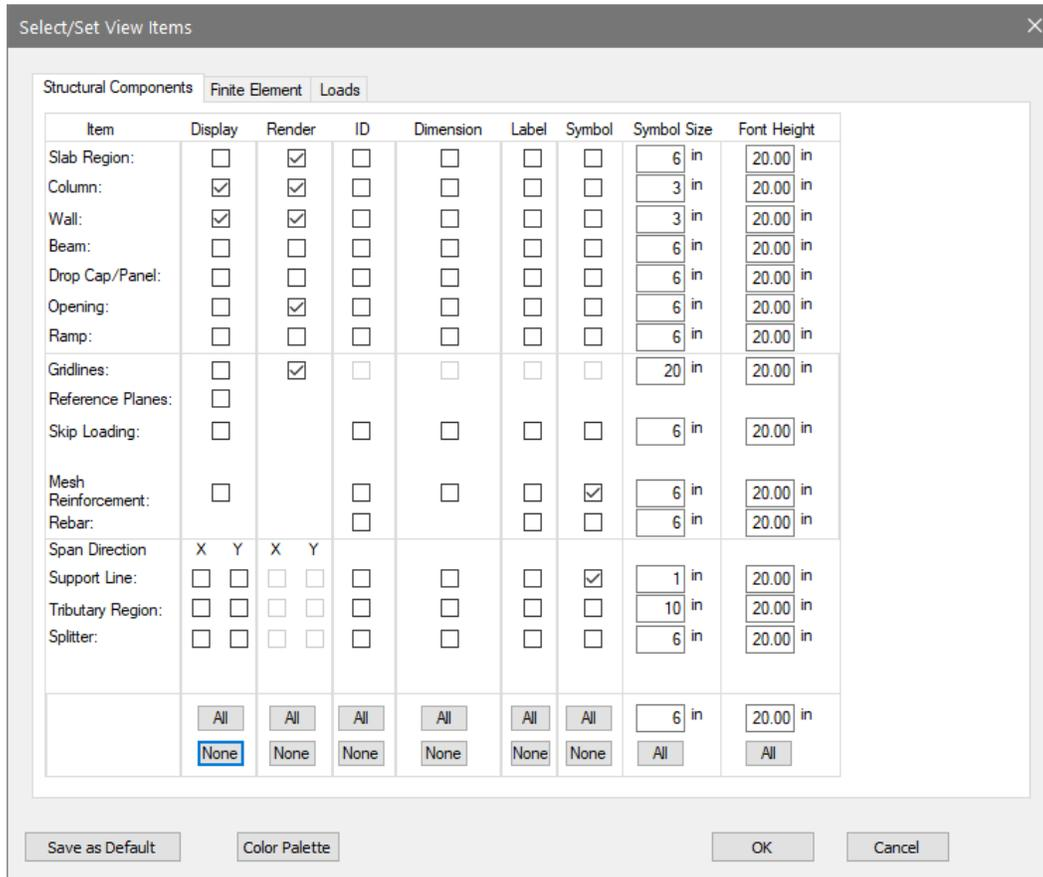

Figure 3-15
- On the *Structural Components* tab, make the selections as shown in **FIGURE 3-15**.